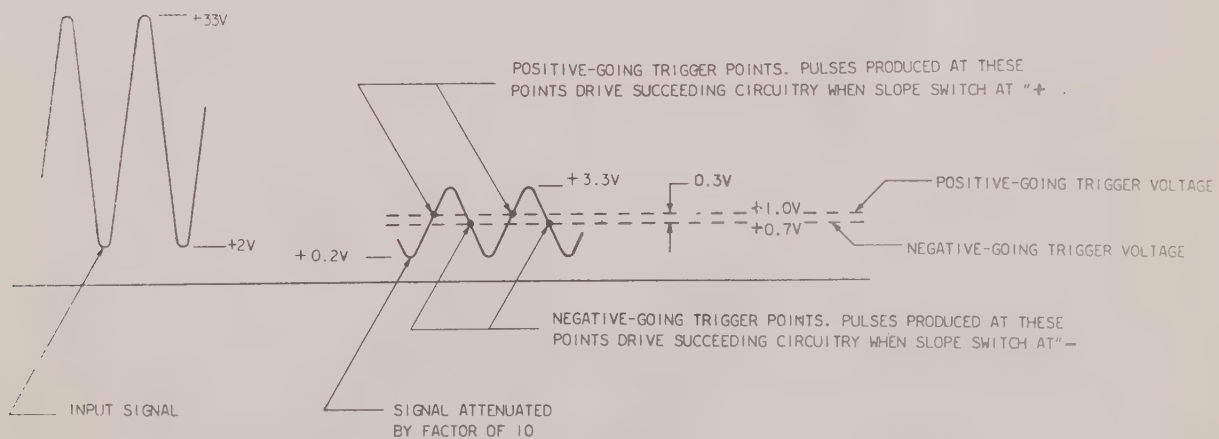

FIGURE 3.
Figure 3 shows how the varying voltage of the attenuated signal triggers channel output pulses. A pulse is produced each time the instantaneous voltage of the attenuated signal passes through the "positive-going trigger voltage" starting from a value more negative than the "negative-going trigger voltage". Another pulse is produced each time the instantaneous attenuated voltage passes through the "negative-going trigger voltage"
The purpose of the input trigger channel is to produce a reliable pulse output representing that part of the input signal in which the operator is interested. This is achieved only when the ATTENUATION and TRIGGER VOLTAGE controls are properly adjusted. Before attempting to adjust the controls, it is best to visualize the input waveform, noting the shape, a-c amplitude and d-c level. The effect of various control settings is then relatively easy to calculate. Referring to figure 3, notice that:
1. If the attenuated signal is small peak-to-peak, the trigger voltage levels may be set so high or so low that no pulses are produced. In figure 3, for example, if the "positive-going trigger voltage" were set at -0.5 volts (thus placing the "negative-going trigger voltage" at -0.8 volts), the attenuated signal with peaks at +0.2 and +3.3 volts would not intersect either trigger voltage level.
2. If the attenuated voltage variations ride on a d-c level, they may not come within the trigger voltage range. In figure 3, again, if the input signal were not attenuated (or a-c coupled) the negative peak at +2 volts would not intersect any possible trigger voltage level.